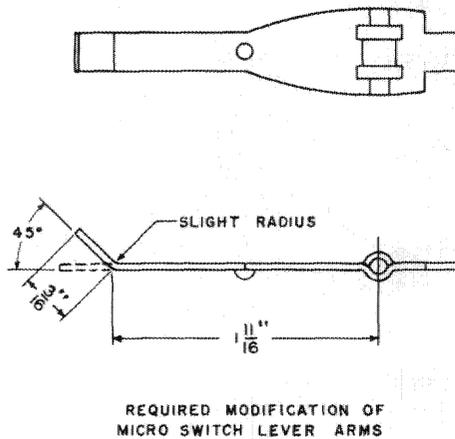

Fig. 3 — Micro Switch BZRW84
5.11 When ordering replacement Micro Switch, lever arm must be modified as shown in Fig. 3 to operate properly with cam assembly.